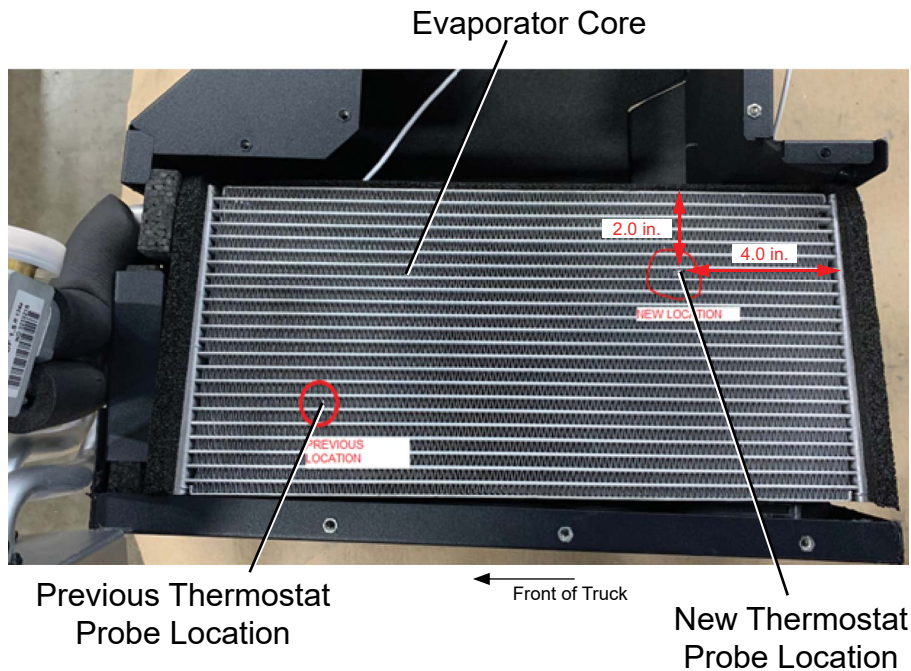

Figure 3
9. Remove thermostat probe from evaporator core and reinstall to area shown in Figure 3.